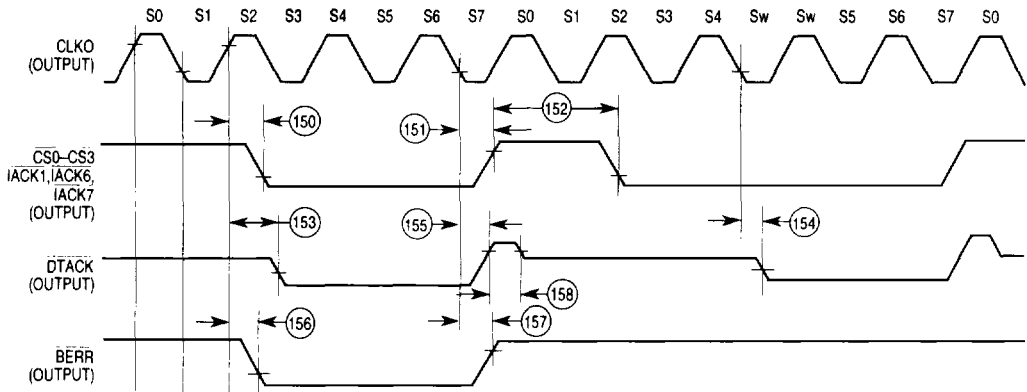

Figure 6-14. Internal Master Chip-Select Timing Diagram
**INTERNAL MASTER** (see Figure 6-14)